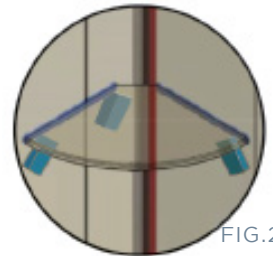

FIG.20
- Carefully place shelf on stabiliser blocks and gently push into corner. Check the level and add additional blocks to top of shelf to hold in place while adhesive cures. (FIG 20).